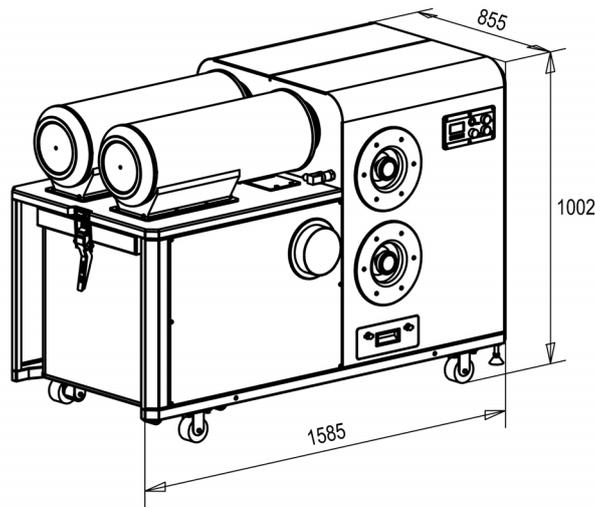

Fig. 4
4.2 Positioning the machine (Fig. 4)